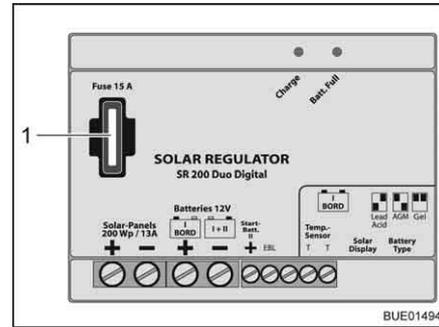

Fig. 188 Solar charge regulator fuse 200 W
- Replace flat fuse 15 A/blue (Fig. 188,1).